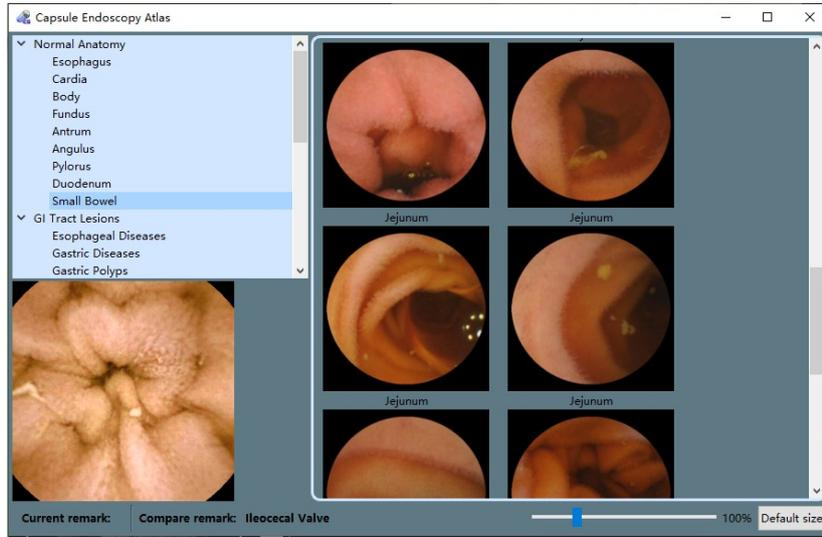

Figure 4-51: Capsule Endoscopy Atlas Interface
3. In the main software interface, select “Tool” → “Capsule endoscopy atlas” to access the capsule endoscopy atlas interface. Select a landmark of the digestive tract, for instance “Esophagus”, in the left column, the images added in steps 1-2 will be displayed, as shown in Figure 4-51.